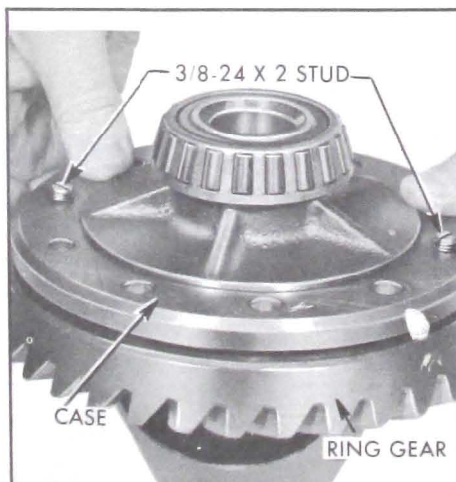

Figure 6-18—Installing Ring Gear on Differential Case
6. After making sure that mating surfaces of case and ring gear are clean and free of burrs, thread two 3/8-24x2 studs into opposite sides of the ring gear, then install ring gear on case. See Figure 6-18. Install ring gear attaching bolts just snug. Torque bolts alternately in progressive stages to 60 ft. lbs.